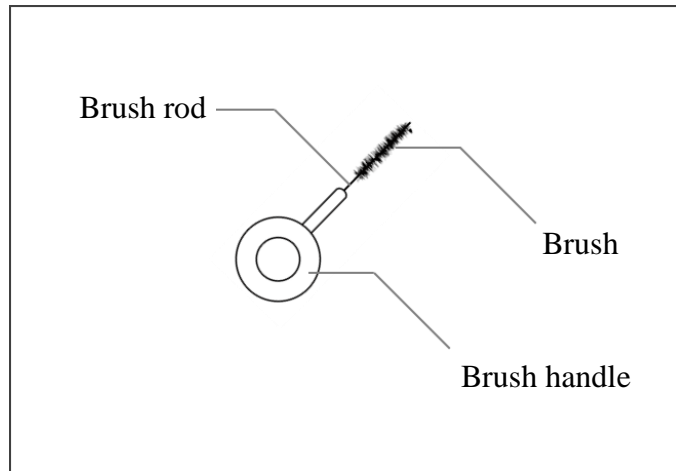

Figure 7.5
The cleaning brush is used to scrub the suction interface and clamp pipe opening (as shown in Figure 7.5).
1. Check whether the brush head is loose or fallen off (as shown in Figure 7.5).